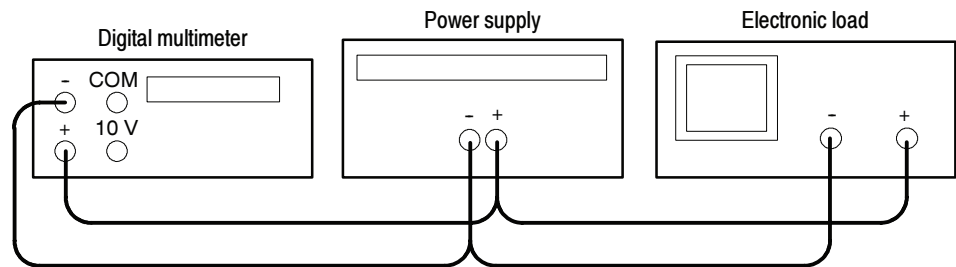

Figure 3: Constant voltage source test setup
2. Ensure that the power supply output is disabled. Connect the DVM and electronic load to the front panel OUTPUT 1 terminals. See Figure 3 for details.
7. Enable the electronic load. Adjust the load until the power supply CURRENT (A) readout indicates 1.500 A.
11. Ensure that the power supply output is disabled. Remove the leads from the front panel OUTPUT 1 terminals and connect them to the front panel OUTPUT 2 terminals. Maintain the equipment configuration and polarities shown in Figure 3.
2. Ensure that the power supply output is disabled. Connect the DVM and electronic load to the front panel OUTPUT 2 (+) and OUTPUT 1 (-) terminals. Maintain the equipment configuration and polarities shown in Figure 3.
2. Ensure that the power supply output is disabled. Connect the DVM and electronic load to the front panel OUTPUT 2 terminals. Maintain the equipment configuration and polarities shown in Figure 3.
2. Ensure that the power supply output is disabled. Connect the DVM and electronic load to the front panel OUTPUT 3 terminals. Maintain the equipment configuration and polarities shown in Figure 3.